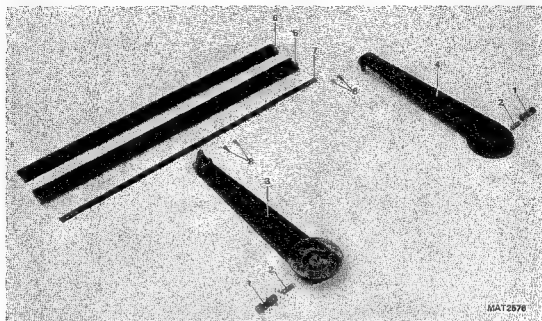

Figure 15.4 Carrying handle.
15.1.3 Carrying handle and housing (figure 15.4 and 15.5)